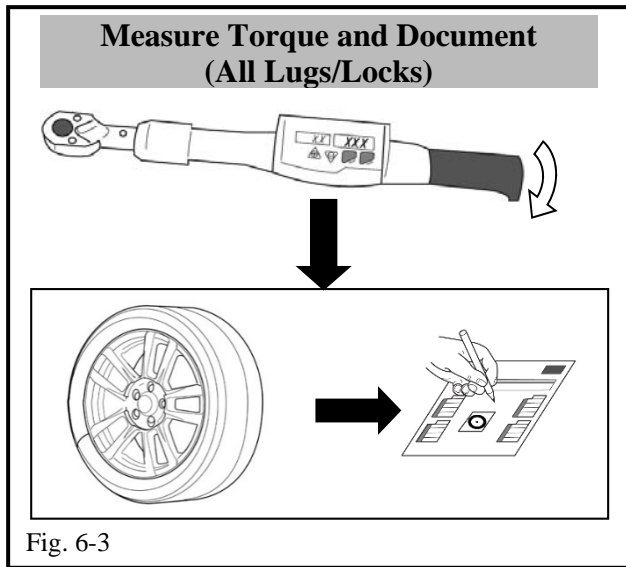

Fig. 6-3
- (d) With the vehicle still on the lift, use a digital torque wrench to measure the torque of each lug nut/lock and record it on the Torque Audit Sheet (Fig. 6-3) (PPO installation only, does not apply to DIO installation).